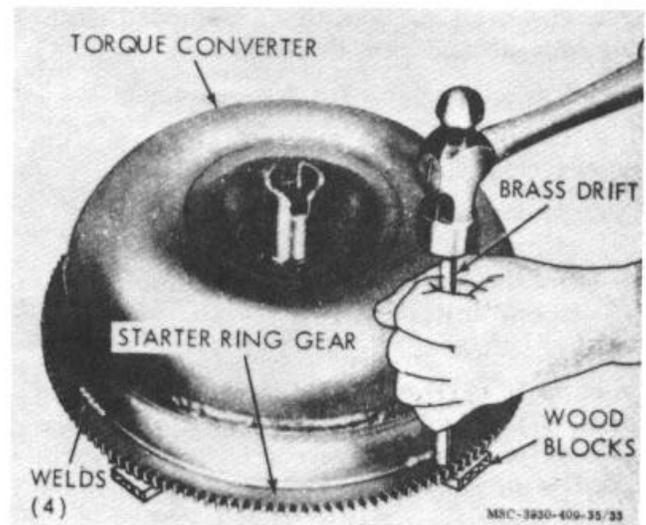

Figure 4-12. Starter ring gear removal.
- (1) Remove torque converter from transmission (para 4-17).
- (2) Cut through weld material at rear side of ring gear (fig. 4-12) with a hack saw or grinding wheel. Be careful not to cut or grind into front cover stamping.
- (3) Scribe a heavy line on front cover next to front face of ring gear to aid in locating new ring gear on torque converter.
- (4) Support converter with four lug faces resting on blocks of wood (fig. 4-12).